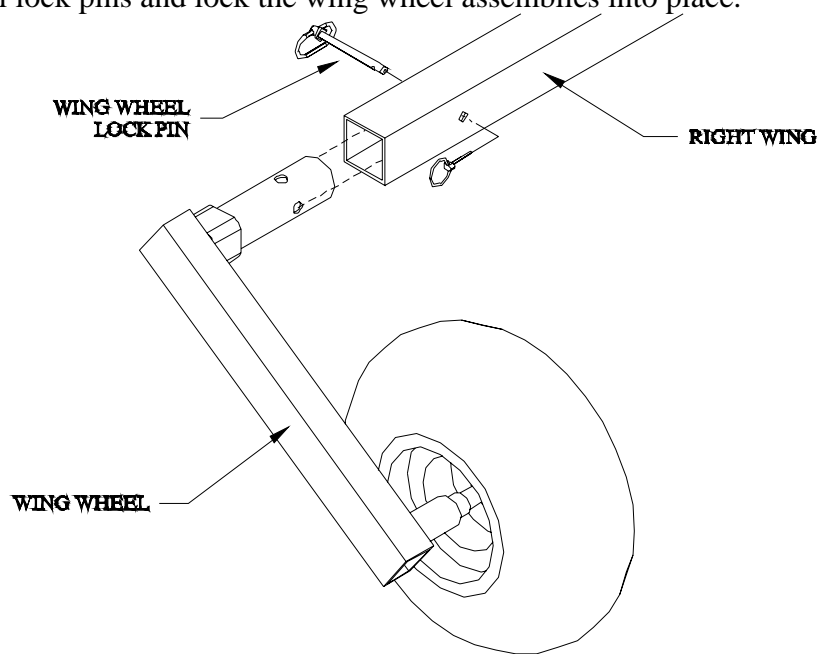

Figure 8
3. Mount the wing wheels on the wing wheel brackets. Refer to Figure 8.